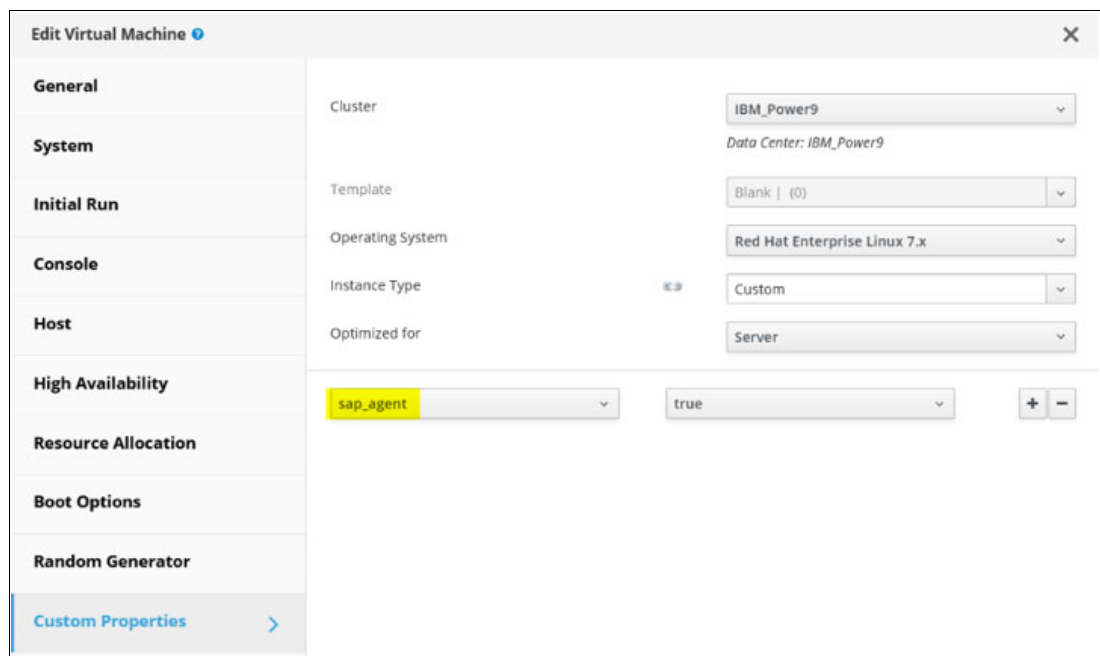

Figure 4-48 Edit Virtual Machine window: Configuring Custom Properties
3. Edit the VM by selecting **Custom Properties** and selecting **sap\_agent**, as shown in Figure 4-48.